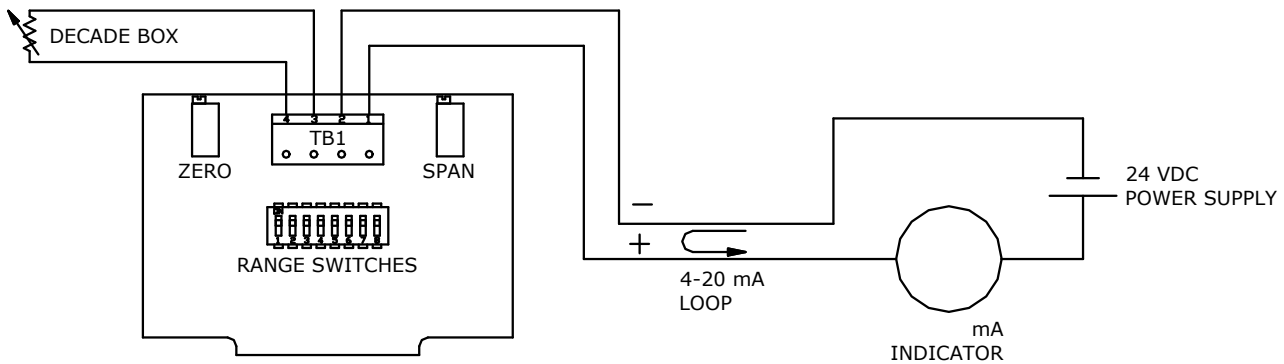

Figure 2
1. Connect the equipment as shown below (Figure 2) substituting a resistance decade box, with resolution of at least 0.01 ohm, in place of the RTD.